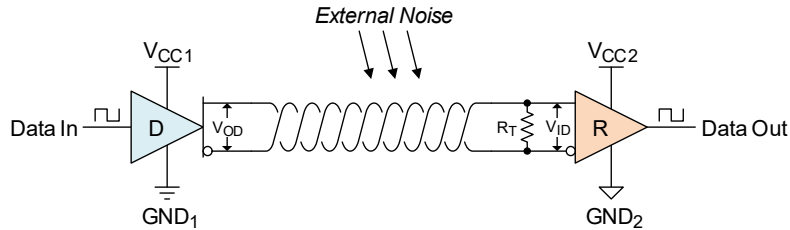

Figure 1. Simplest RS-485 Data Link
The simplest form of an RS-485 interface is a data link between a transmitter or driver (D) and a receiver (R), as shown in Figure 1. The transmission medium is a twisted-pair cable whose receiver end is terminated with a termination resistor (R_T).